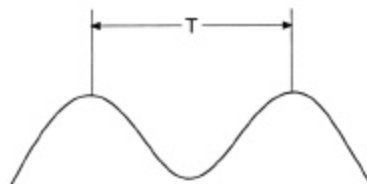

Figure 6-1. One Cycle
11. Measure the period of one cycle of oscillation "T". Refer to Figure 6-1.